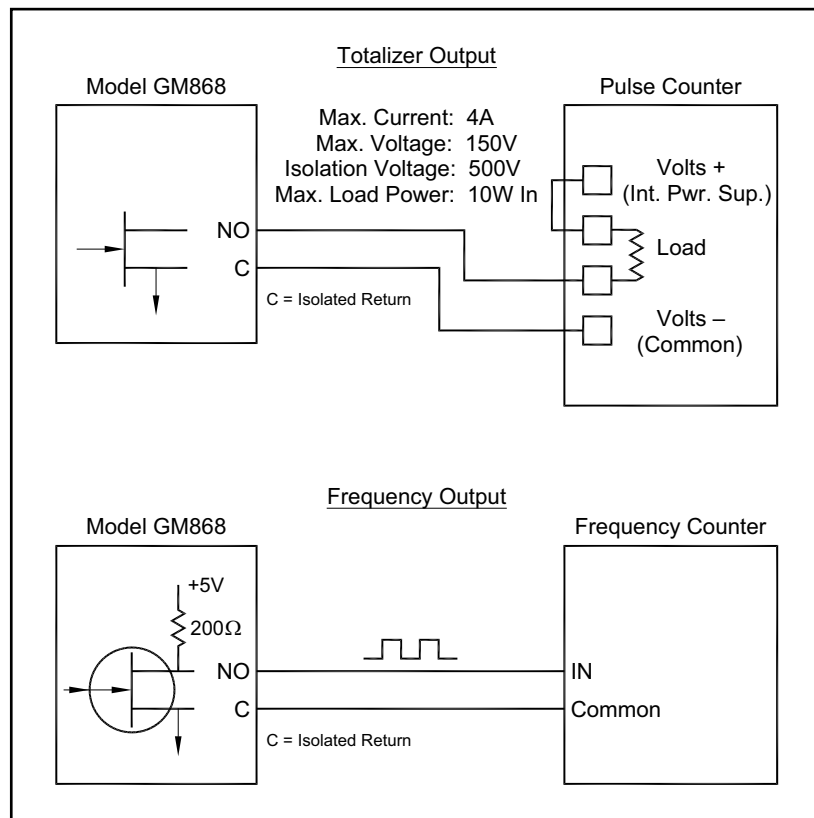
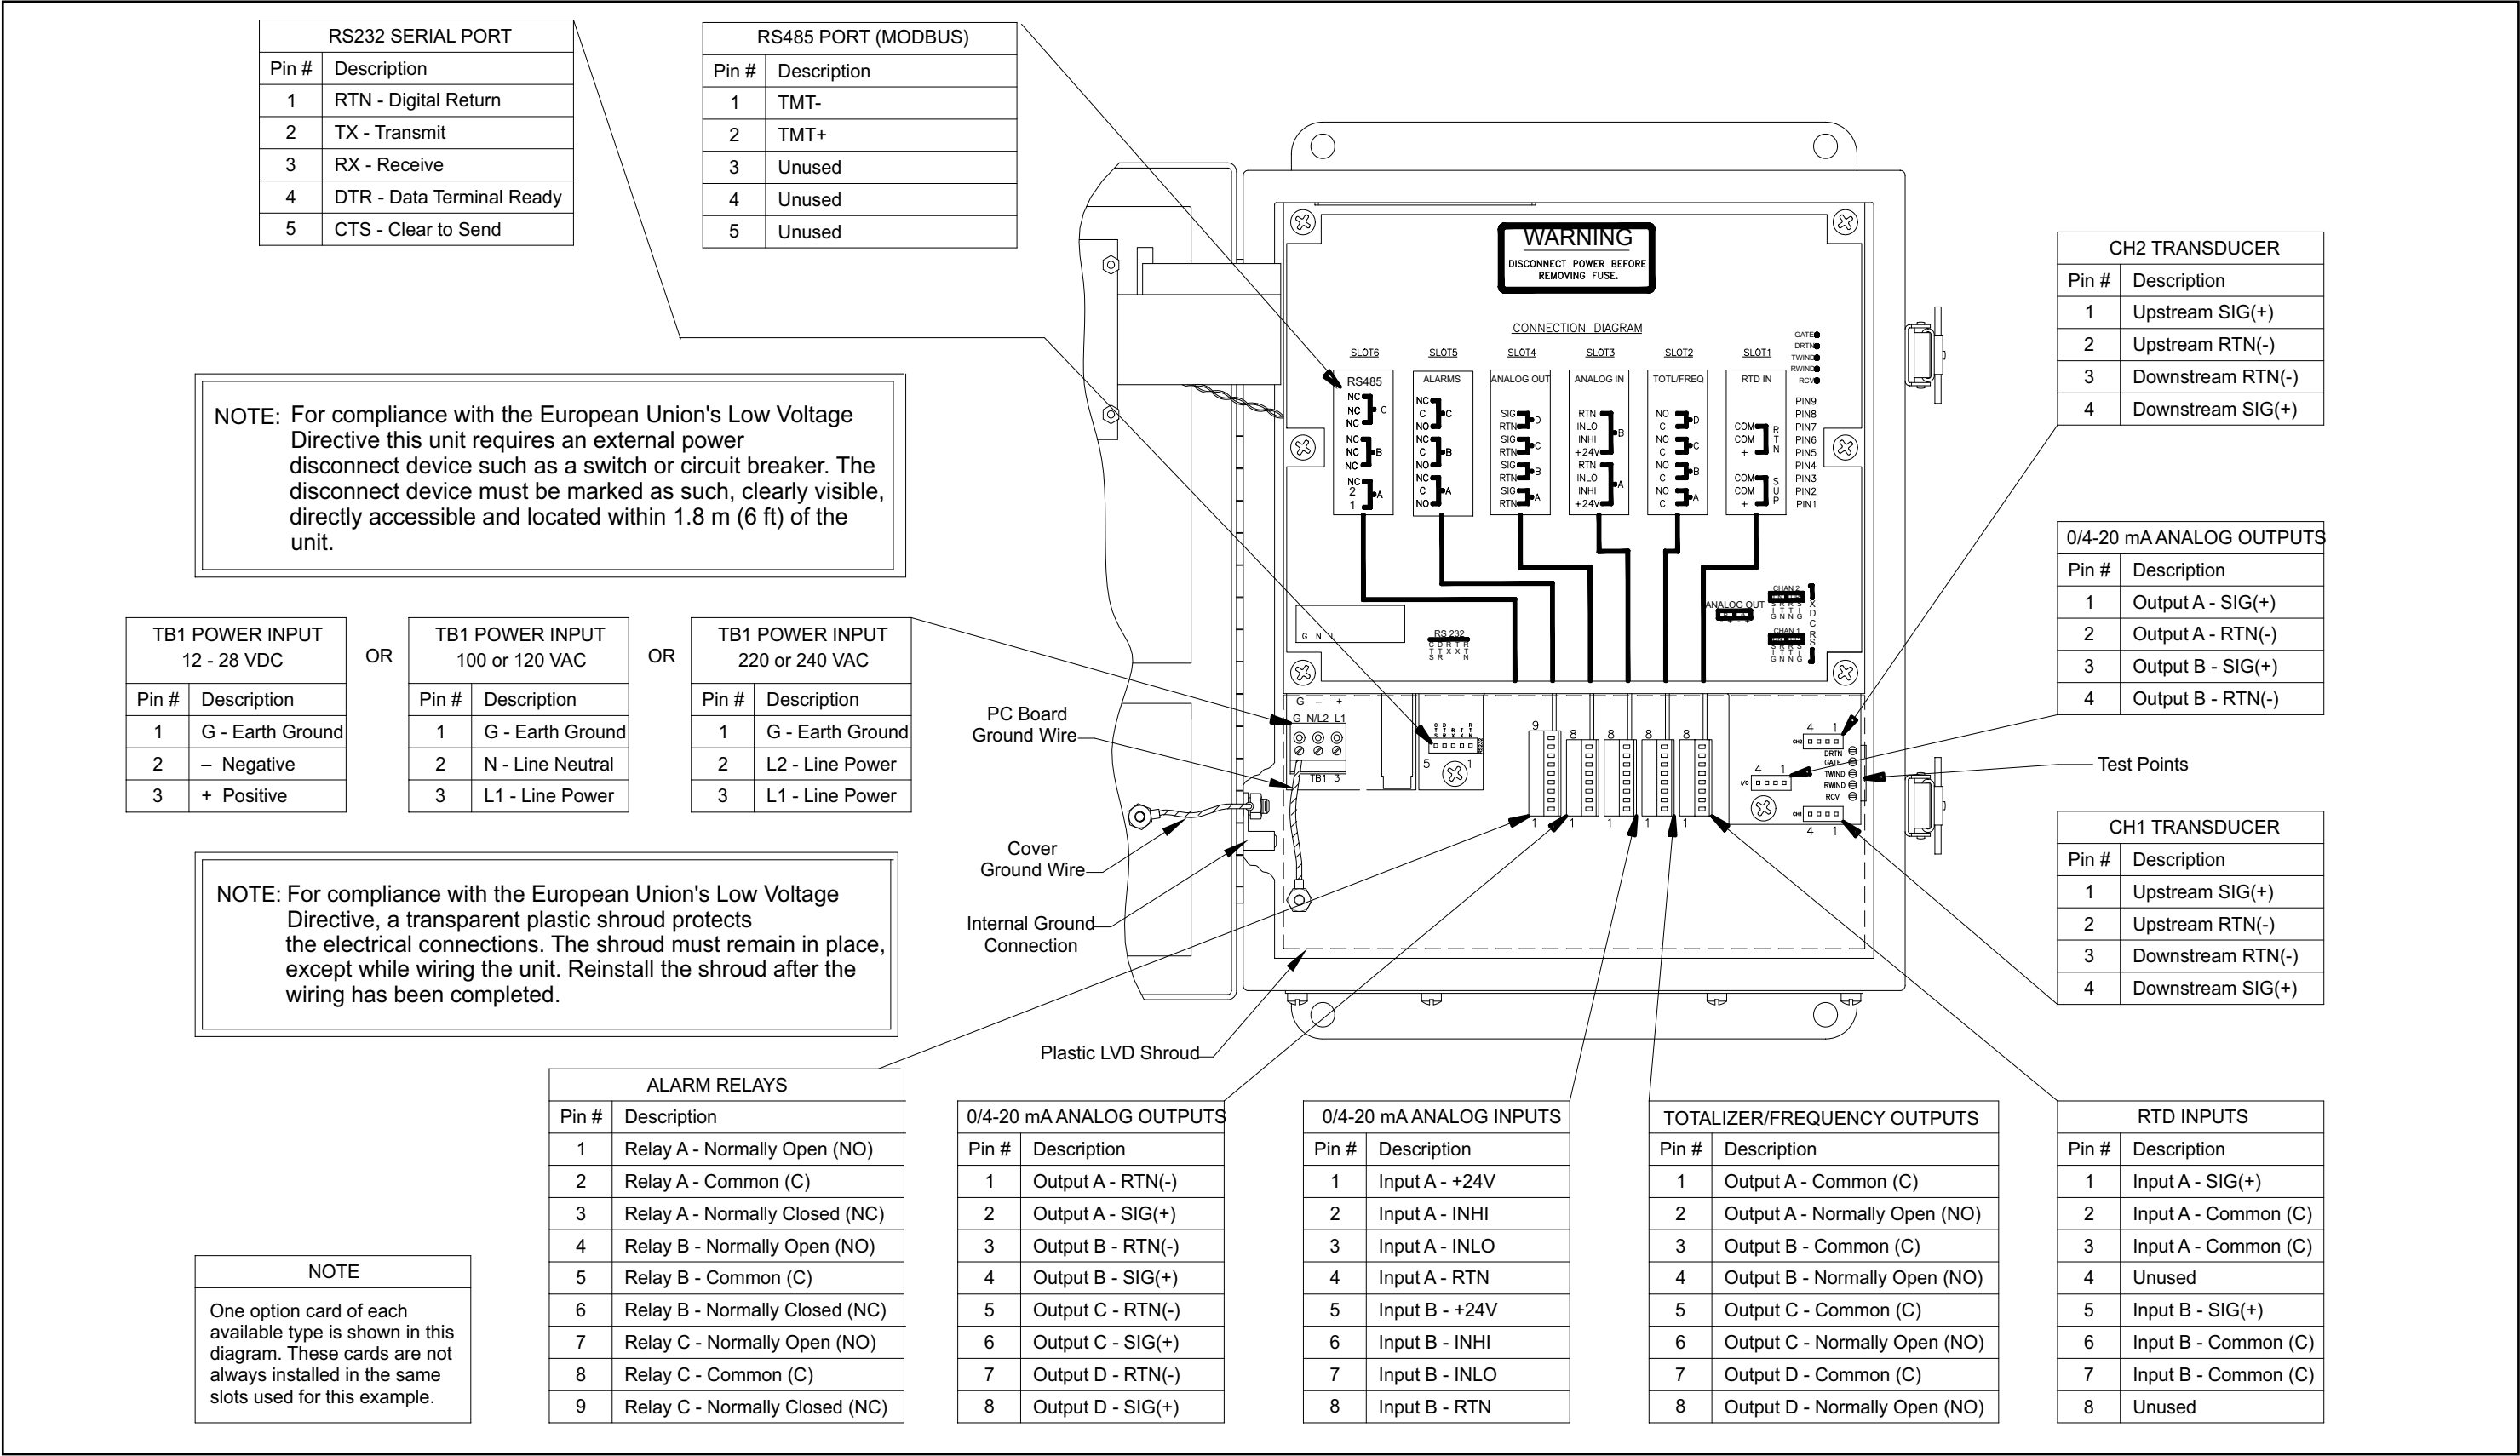

Figure 8: Totalizer/Frequency Outputs Wiring
Figure 10: Model GM868 Electronics Console Wiring (ref. dwg #702-213, sht 1)
3. Using the pair of coaxial cables with BNC to flying lead connectors supplied by the factory (or equivalent cables), connect the preamplifier to terminal block **CH1** in the electronics console. Refer to *Figure 10 on page 18* for the location of the terminal block and the terminal block pin assignments.
The standard configuration of the Model GM868 flowmeter includes two isolated 0/4–20 mA analog outputs (designated as A and B). Connections to these outputs may be made with standard twisted-pair wiring. The current loop impedance for these circuits must not exceed 550 ohms. Refer to *Figure 10 on page 18* for the location of terminal block **I/O** and wire the terminal block as shown.
The RS232 serial interface is wired as Data Terminal Equipment (DTE), and the signals available at the Model GM868 **RS232** terminal block are shown in Table 1 below. Refer to *Figure 10 on page 18* to locate terminal block **RS232** and complete the following steps to wire the terminal:
To wire the RS485 serial port, refer to *Figure 10 on page 18* and complete the following steps:
Connect the two wires required for each alarm relay in accordance with the pin number assignments shown in Figure 10 on page 18.
Wire the analog input terminal block in accordance with the pin number assignments shown in *Figure 10 on page 18*.
Each totalizer/frequency output requires two wires. Wire this terminal block in accordance with the pin number assignments shown in *Figure 10 on page 18*. *Figure 8* below shows sample wiring diagrams of a totalizer output circuit and a frequency output circuit.
Each RTD input requires three wires, which should be fed through one of the conduit holes on the bottom of the electronic console. Wire this terminal block in accordance with the pin number assignments shown in *Figure 10 on page 18*.
Connections to these outputs may be made with standard twisted-pair wiring. The total current loop impedance for these circuits must not exceed 1000 ohms. Wire this terminal block in accordance with the pin number assignments shown in *Figure 10 on page 18*.